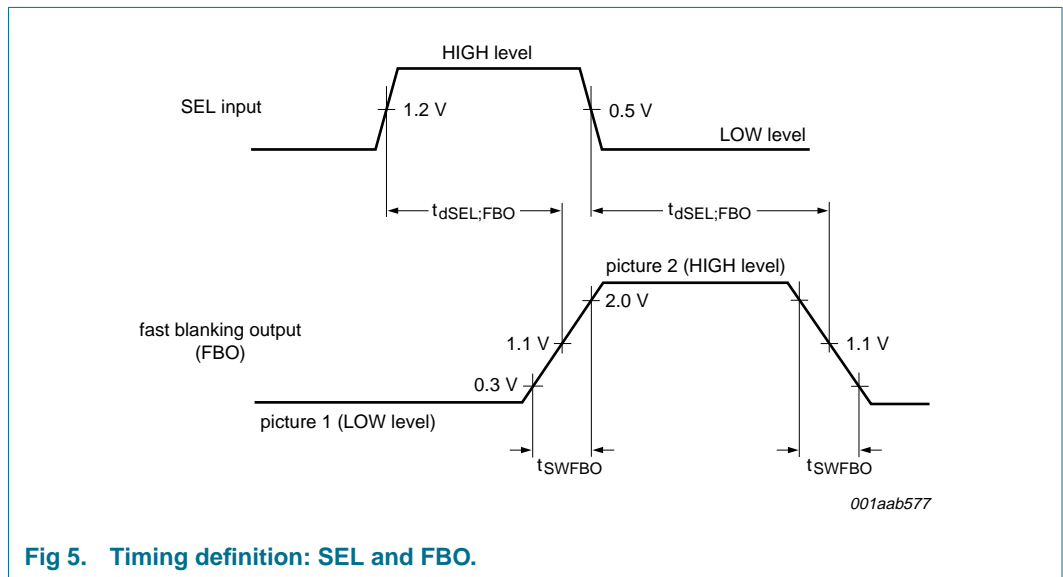

Fig 5. Timing definition: SEL and FBO.
- [5] The delay between the SEL input and fast blanking output together with the switching time of fast blanking output is illustrated in Figure 5.